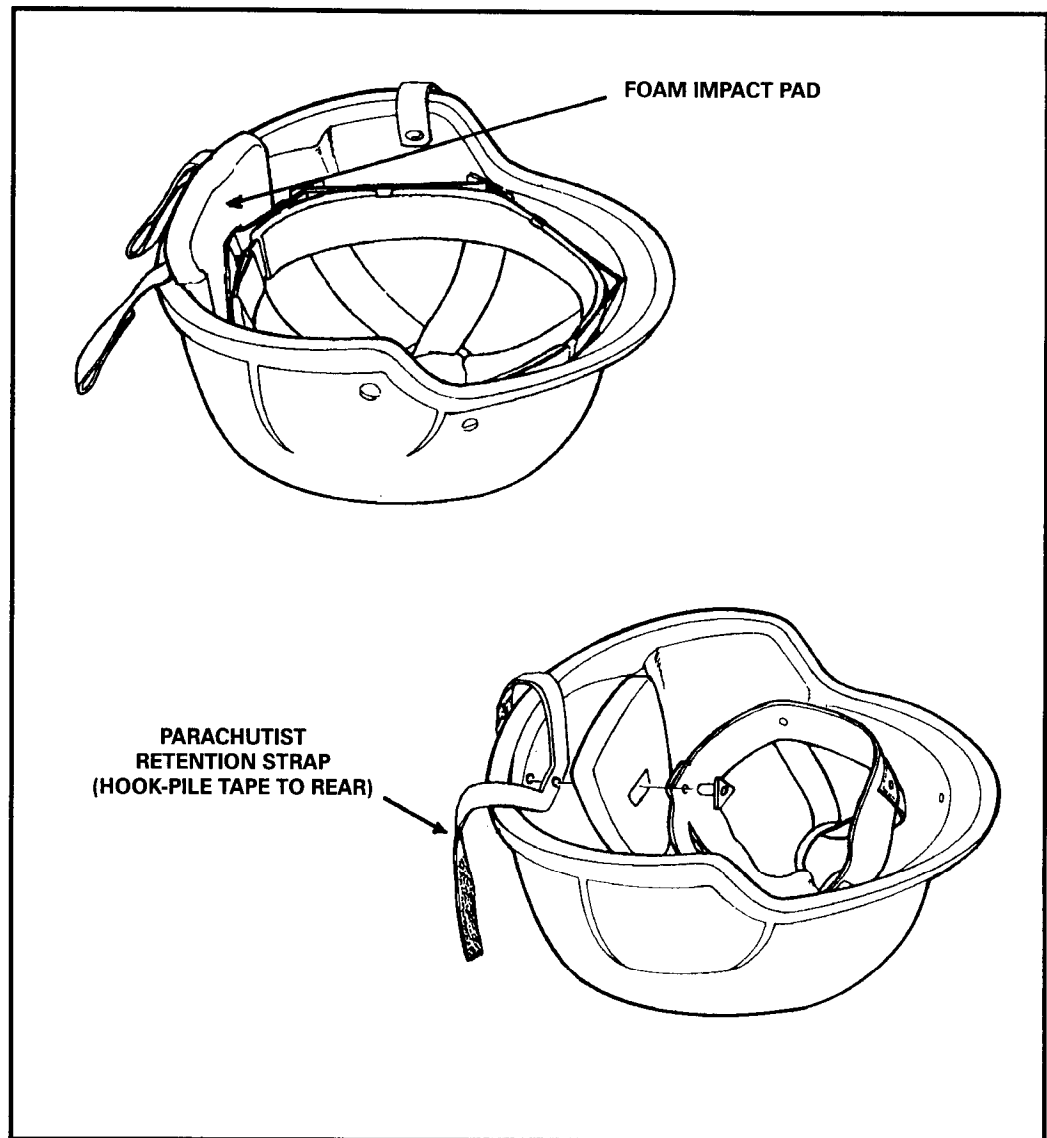

Figure 2-7. PASGT helmet with parachutist retention strap and foam impact pad.
a. **Parachutist Helmet Modifications.** The helmet is modified for airborne operations by adding a parachutist retention strap and a foam impact pad (Figure 2-7, page 2-18). These items provide maximum safety and stability. Also, the PIL is inserted to further protect the jumper's head during PLFs.